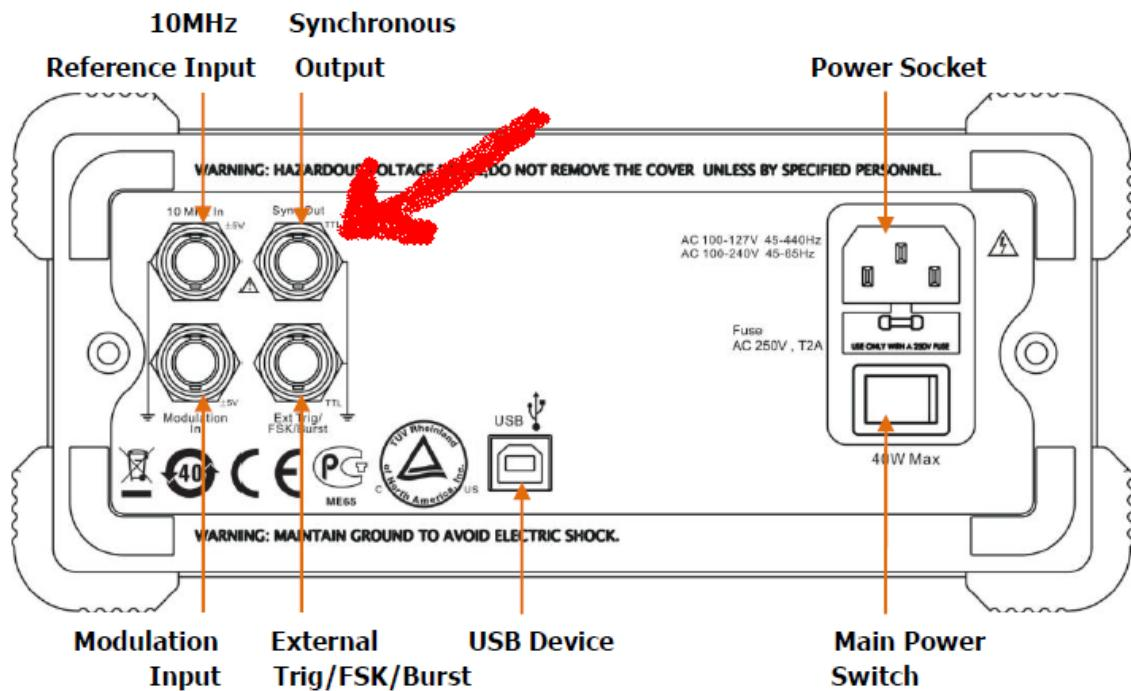

FIGURE 2-1b: DIGITAL Signal Generator (back)
3. Connect the Sync Out of the function generator, on the rear (see Figure 2-1b), to the scope's CH2 or EXT TRIG channel. Keep in mind which channel on the oscilloscope you connected the Sync Out to. We will refer to this as the triggering channel from now on.